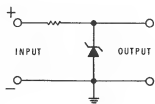

Figure 4-99
14. What is the circuit shown in Figure 4-99?